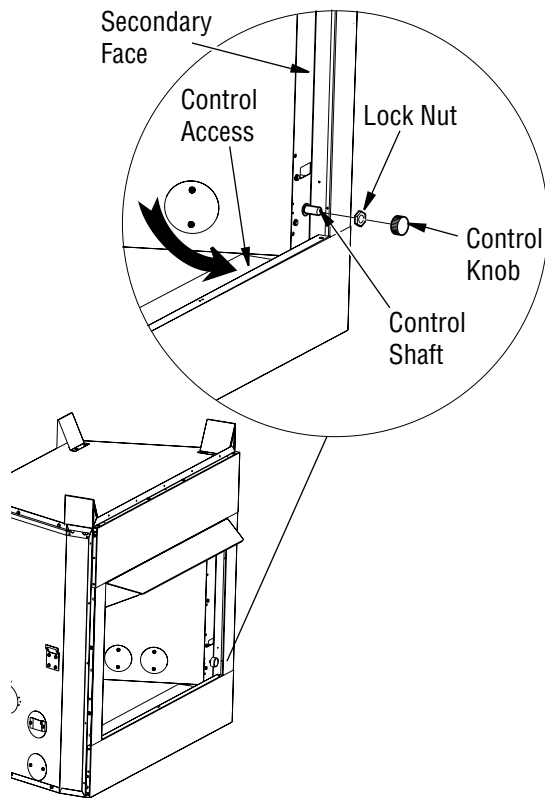

Figure 2 -Attaching Speed Control (Model May Vary From Illustration)
2. Remove metal lock nut from plastic control shaft by turning lock nut with pliers counter clockwise. Mount speed control box by placing plastic control shaft through hole on lower portion of the left right side of secondary face by sliding control box down through large hole in firebox bottom and up behind firebox side (see Figure 2, page 3). Secure speed control to side face with previously removed lock nut by pushing and turning lock nut clockwise with pliers until it is tight against side face of fireplace (see Figure 2, page 3).
3. Place control knob, provided, onto control shaft (see Figure 2, page 3).